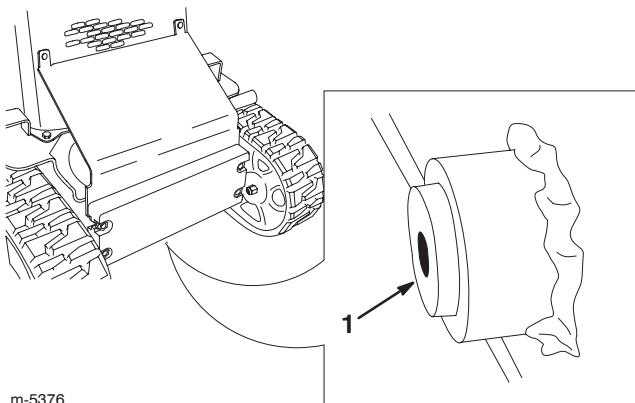

Figure 48
6. Place a large drain pan (capable of holding 15 US gallons) under the drain plug on the front of the traction unit (Fig. 48).
7. Remove the drain plug and allow the oil to drain into the pan (Fig. 48).